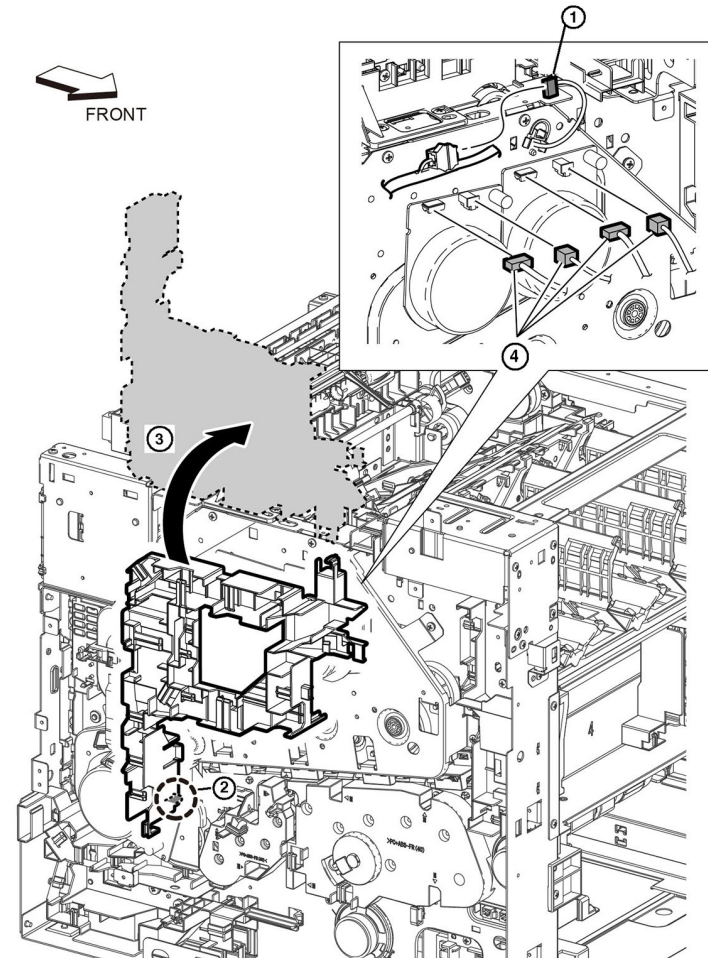

Figure 3 DC harness guide removal
30. Remove the DC harness guide, **Figure 3**:
- a. Disengage the connector P/J468 (1).
- b. Release three hooks (2) of the DC harness guide, then remove the DC harness guide.